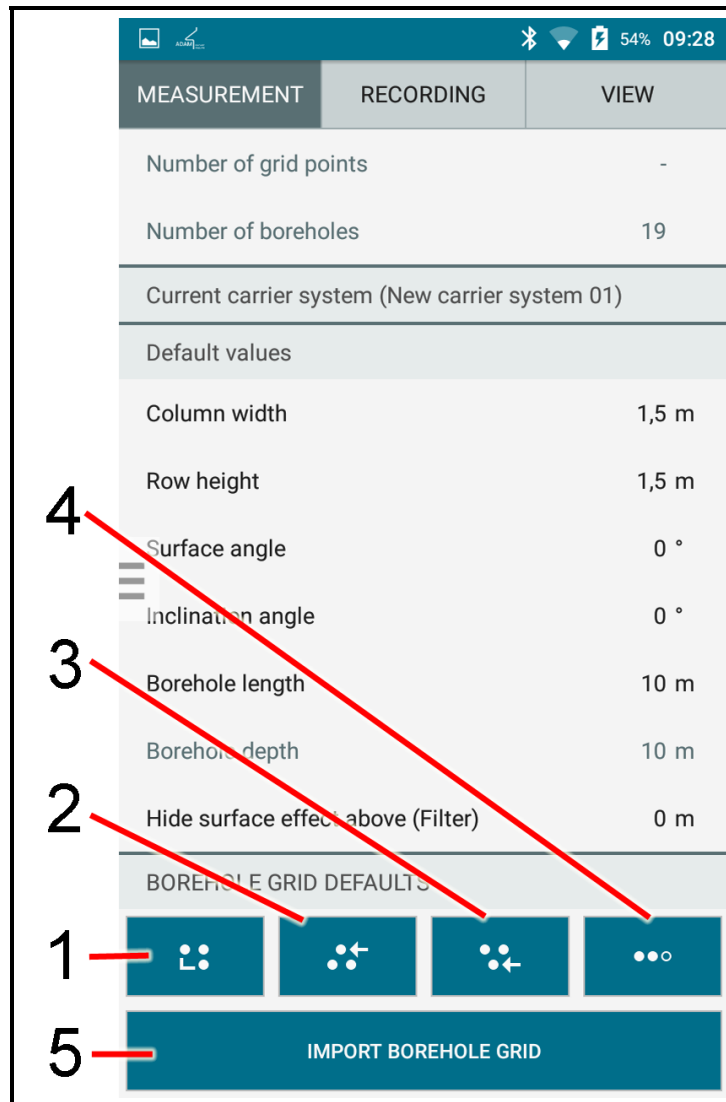

Fig. 4.6.32: *BOREHOLE GRID DEFAULTS* (1 – 4)
After setting the parameters, set the actual grid assignment by tapping one of the controls *BOREHOLE GRID DEFAULTS* (1–4), see Fig. 4.6.32. Alternatively, an individual borehole grid can be imported by tapping *IMPORT BOREHOLE GRID* (5).